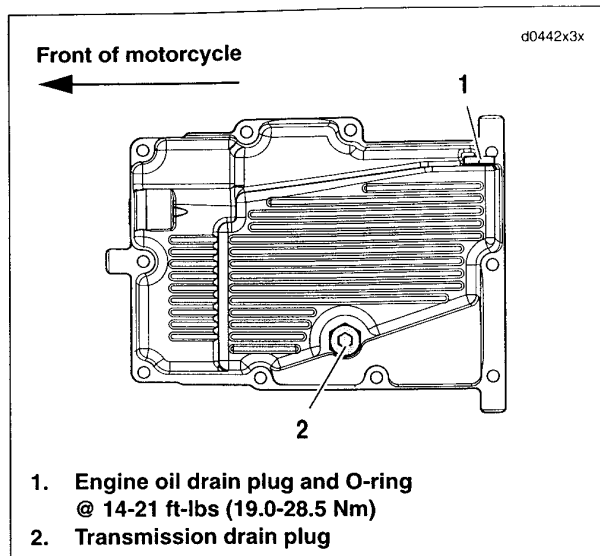

Figure 1-3. Oil Pan
3. See Figure 1-3. Remove the engine oil drain plug with O-ring (1). Allow oil to drain into a suitable container.
6. See Figure 1-3. Install oil pan drain plug (1).